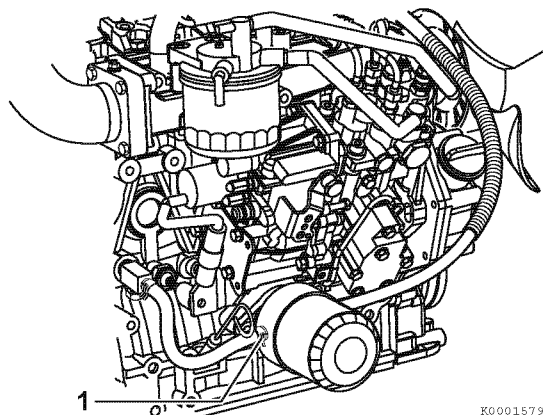

Figure 25
- On models equipped with an oil cooler, remove the coolant hose (1, **Figure 25**) at the oil cooler.